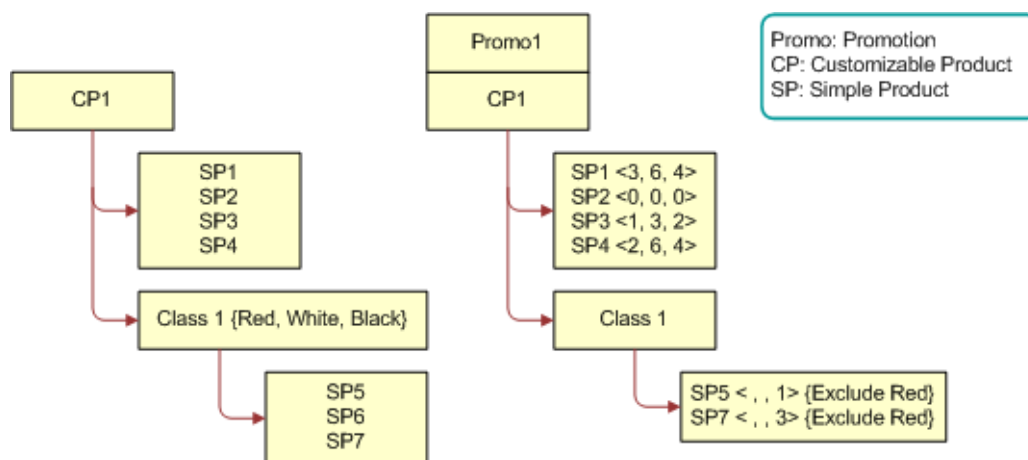

Figure 9. Product Structure for CP1 and Promo 1
- 1 A customizable product named CP1 is defined and a promotion named Promo1 is defined as shown in Figure 9.
Figure 9 shows a product named CP1 with the following structure: CP1 has four simple product relationships defined (SP1, SP2, SP3, SP4) and a Product Class named Class 1. A further three simple product relationships (SP5, SP6, SP7) are defined and associated with Class 1. Class 1 is associated with an attribute that has the values {Red, White, Black}.
Figure 9 shows a promotion named Promo1, where CP1 has the following structure: CP1 has four simple product relationships defined (SP1, SP2, SP3, SP4) and a Product Class named Class 1. A further two simple product relationships (SP5, SP7) are defined and associated with Class 1. For SP1, Min is set to 3, Max is set to 6, and Default is set to 4. For SP2, Min is set to 0, Max is set to 0, and Default is set to 0. For SP3, Min is set to 1, Max is set to 3, and Default is set to 2. For SP4, Min is set to 2, Max is set to 6, and Default is set to 4. For SP5, Default is set to 1, and the attribute value Red is excluded for this relationship. For SP7, Default is set to 3, and the attribute value Red is excluded for this relationship.
- 1 Create the product structure for CP1 and Promo1 as shown Figure 9.